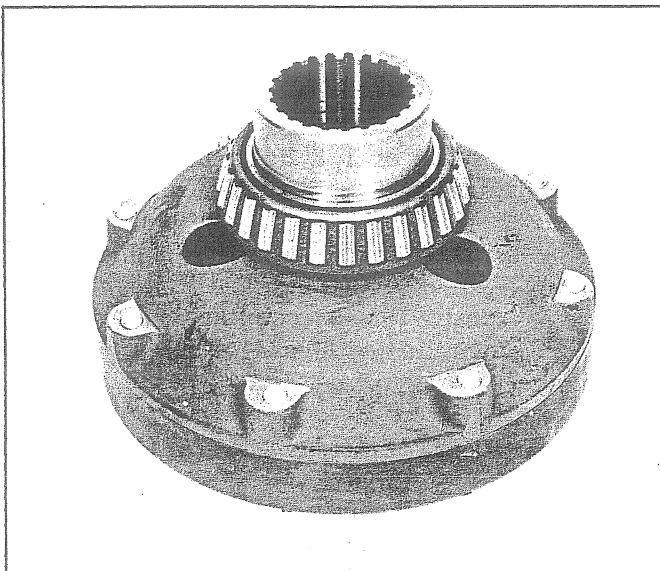

Fig. 41 - Bearing Correctly Installed on Hub
6. If bearing requires replacement, remove old bearing from hub using a suitable puller and press new bearing onto hub. See Fig. 41.